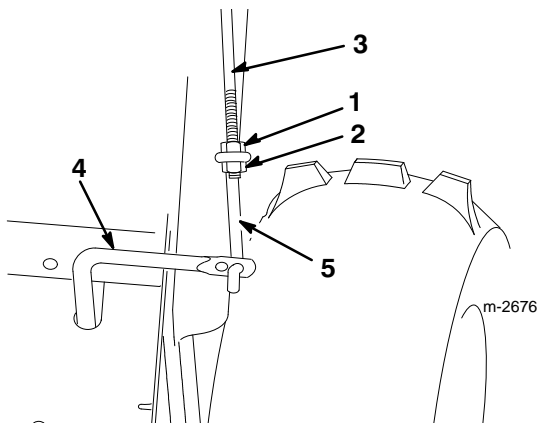

Figure 9
- Thread a flange nut (flange side down) onto the upper control rod located on the right handle (Fig. 9).
- Install the lower link through the outer hole in the lower control rod (Fig. 9).
- Insert the upper control rod through the loop in the lower link control rod (Fig. 9).
- Thread a flange lock nut (flange side up) onto the bottom of the upper control rod below the loop in the lower link (Fig. 9).
- Adjust the two nuts, if necessary, to obtain this dimension, then tighten the nuts securely (Fig. 9).